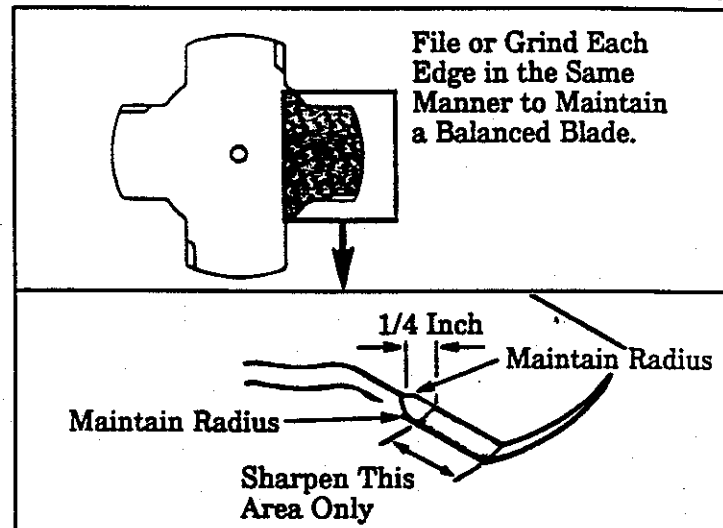

Figure 35
3. **File or grind each edge in the same manner to maintain a balanced blade as shown.** Figure 35.
To prevent the blade from cracking or flying apart after sharpening, do not file within 1/4 inch of the radii shown in Figure 35.